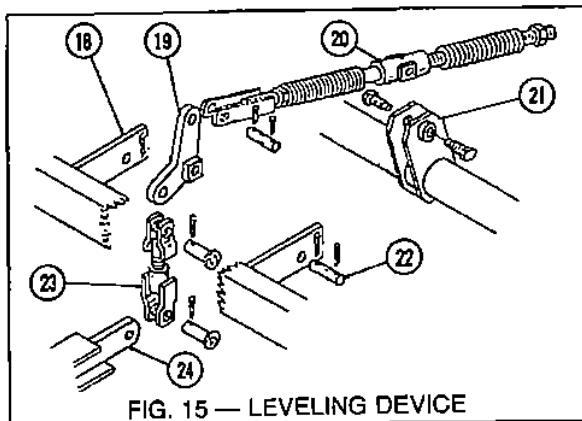

FIG. 15 — LEVELING DEVICE
5. Leveling Device Connection: (See Fig. 15)